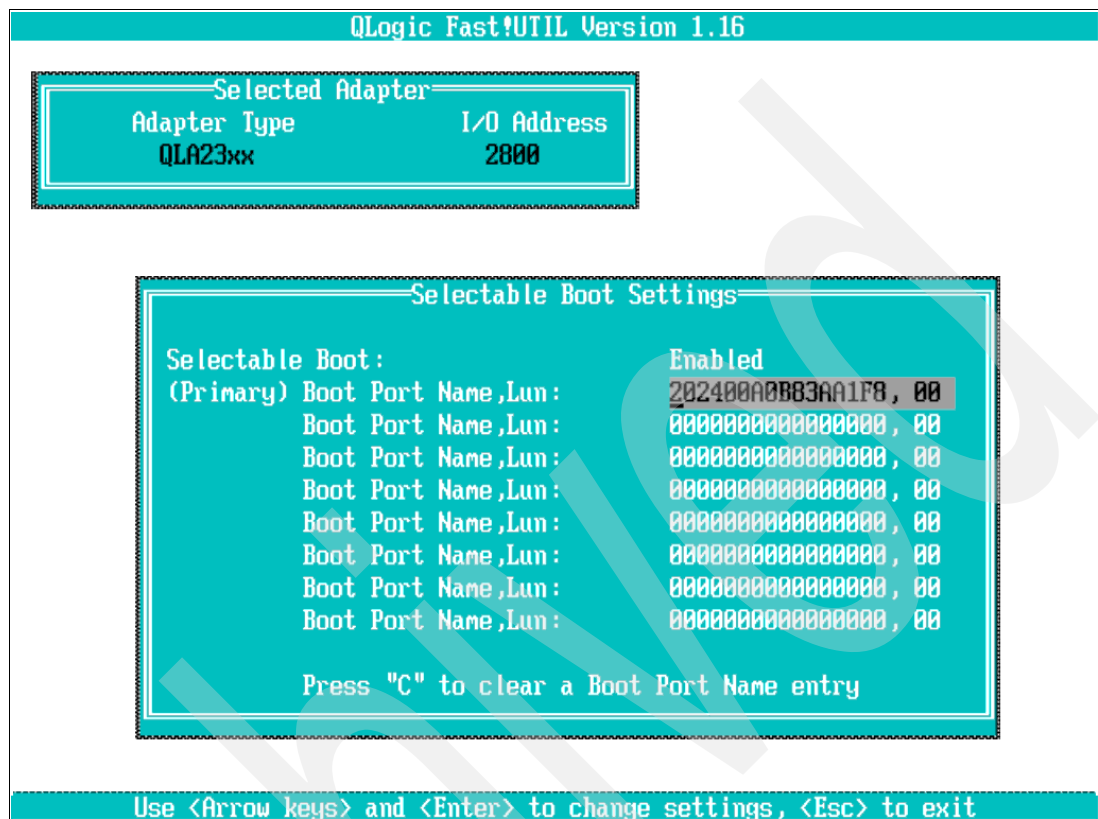

Figure 27-29 Selectable Boot Settings
2. Move the cursor to (Primary) Boot Port Name, Lun field and press Enter. Now select the DS3400 entry as the boot device. The controller an FC host port WWN should appear and the LUN should be 0 (see Figure 27-29).